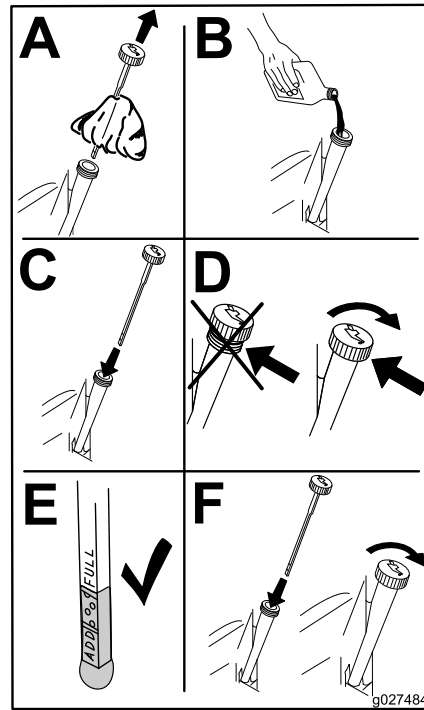

Figure 34
6. Slowly pour approximately 80% of the specified oil into the filler tube and slowly add the additional oil to bring it to the **Full** mark (Figure 34).